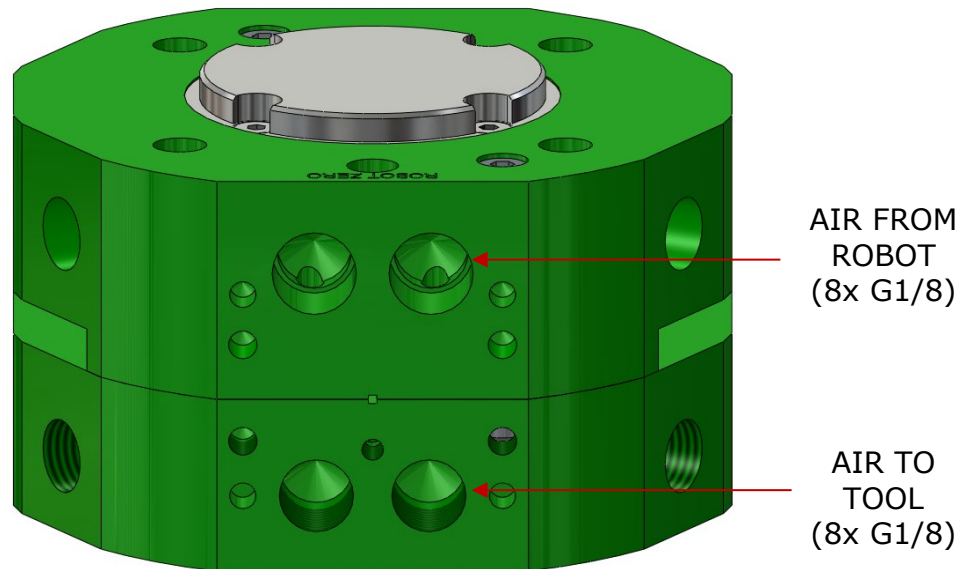

Figure 5.6-1. E63 User Pneumatic Ports
The E63 Tool Changer has eight (8) available user pneumatic ports to supply air through the tool changer to the specific tool being used. The tool changer must be coupled and be fitted with an O-ring seal for these ports to be operational. Air can be supplied via directly ported air fittings supplied by the customer (Figure 5.6-1).